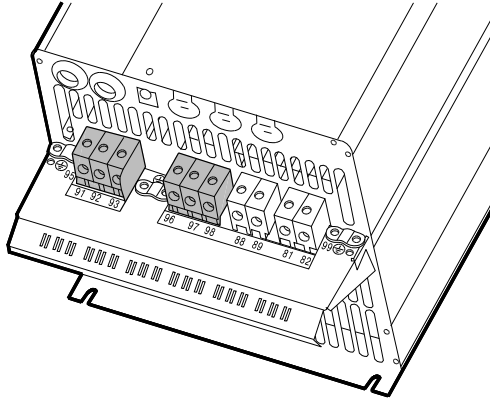

Fig. 19 Mains and motor connection, C3
See figs 19 and 20.
1. Connect the ground conductor to terminal 99 (PE). See figs 19 and 20.
2. Connect the motor conductors to terminals 96 (U), 97 (V), 98 (W).